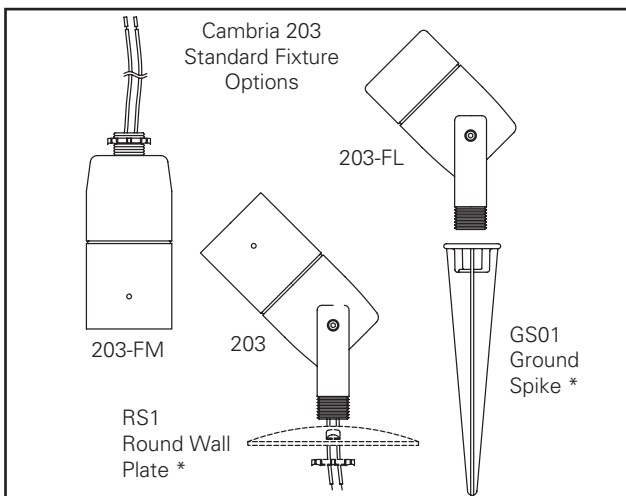

Figure 2.
**For 203 (Shown):** 12V, MR 16, 50 Watt max Bi-Pin halogen lamp. (Figure 2.)